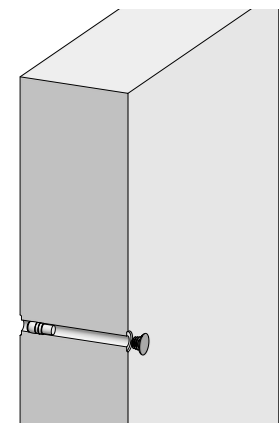

Fig. 78.5
4. Remove the hammering aid and plug the tie hole (Fig. 78.5 and page XT-76).